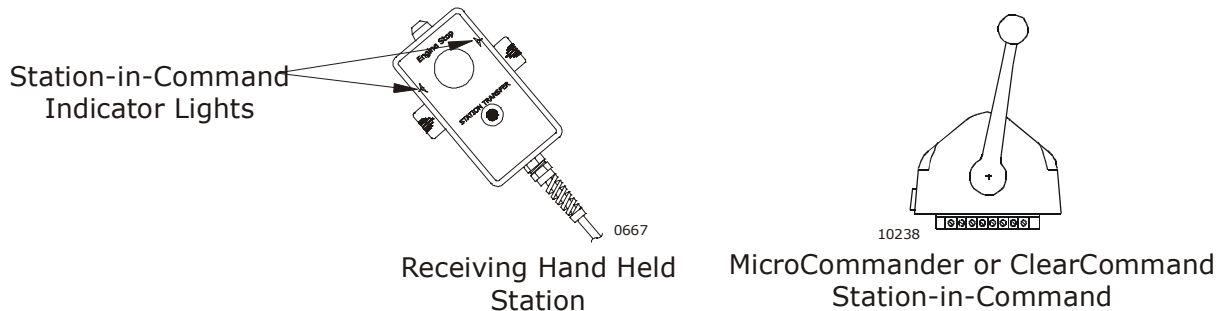

Figure 9: Station Transfer
- B) Move to the Handheld Station. Refer to Figure 9:.
- E) The Station-in-Command red indicator lights next to the control knob(s) on the Handheld will light, indicating command has been transferred to the Handheld. (Refer to Figure 9:, page 12, for location of the indicator lights)